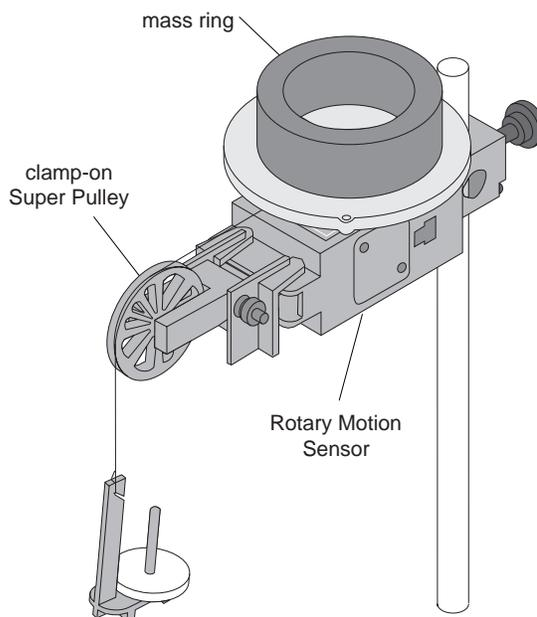

Figure 2.4: Setup for Disk and Ring
- ⑥ Place the mass ring on the disk, inserting the ring pins into the holes in the disk as shown in Figure 2.4.